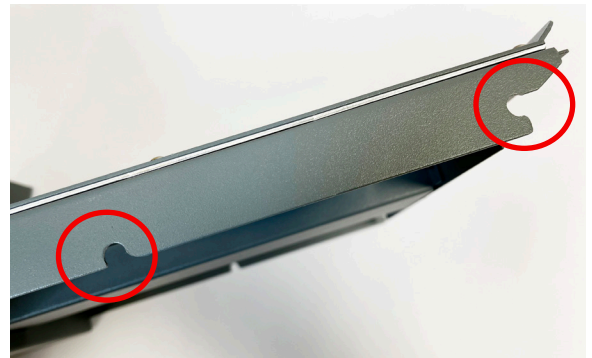
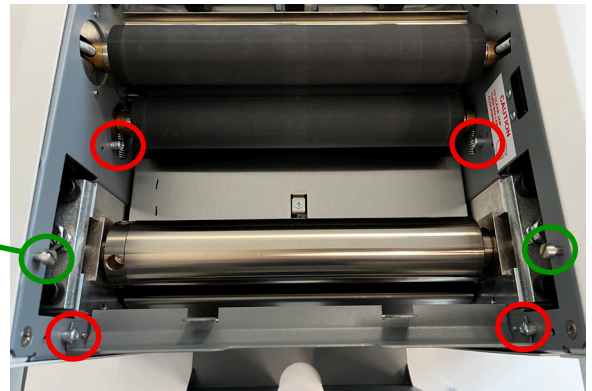

Fig. 1b
Fig. 1c
2. Locate mounting notches on the fold table (Fig. 1b) and the fold mounting pins on the unit (circled in red, Fig. 1c).
3. Slide the fold table into position guiding it under the cover support pins (circled in green, Fig 1c). When the fold table meets the pins press down firmly on the fold table to lock it into position.